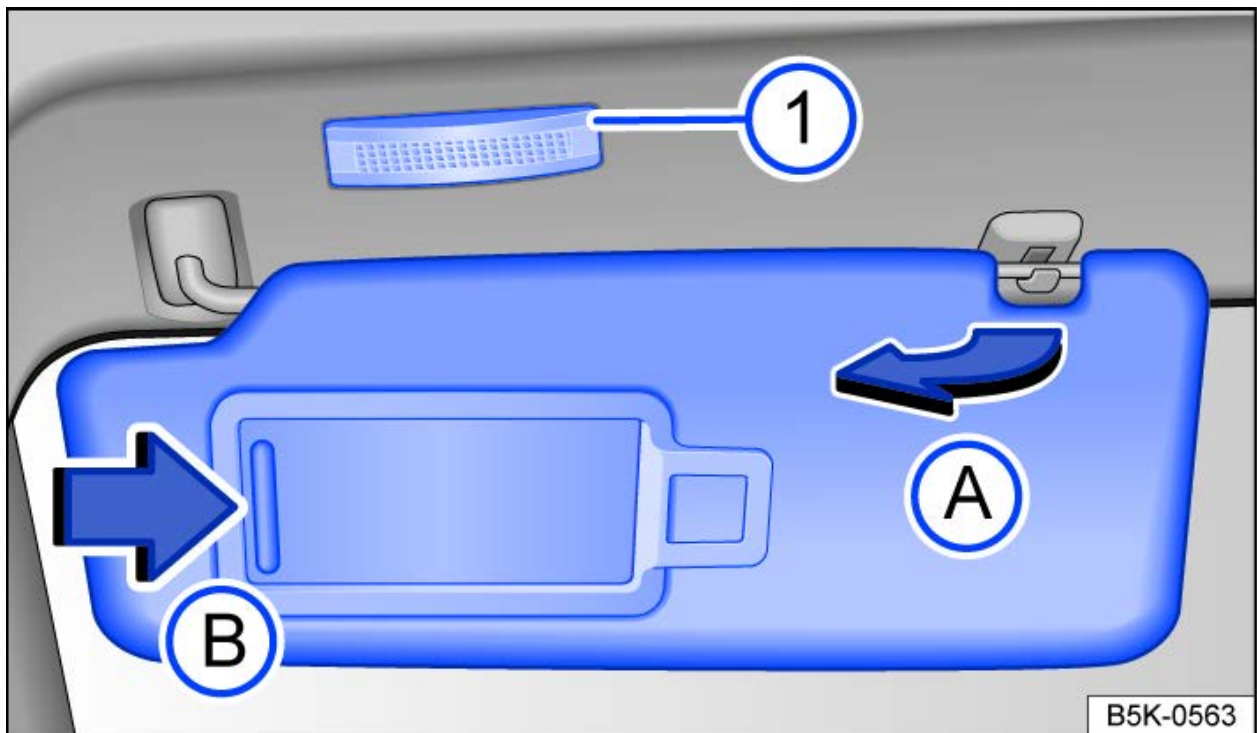

Fig. 1 In the front of the headliner: sun visor.
—Remove from the holder and tilt toward the door → *fig. 1* (A).
When the sun visor is folded down, there is a vanity mirror located behind a cover. The lights → *fig. 1* (1) turn on when the cover → *fig. 1* (B) slides open.